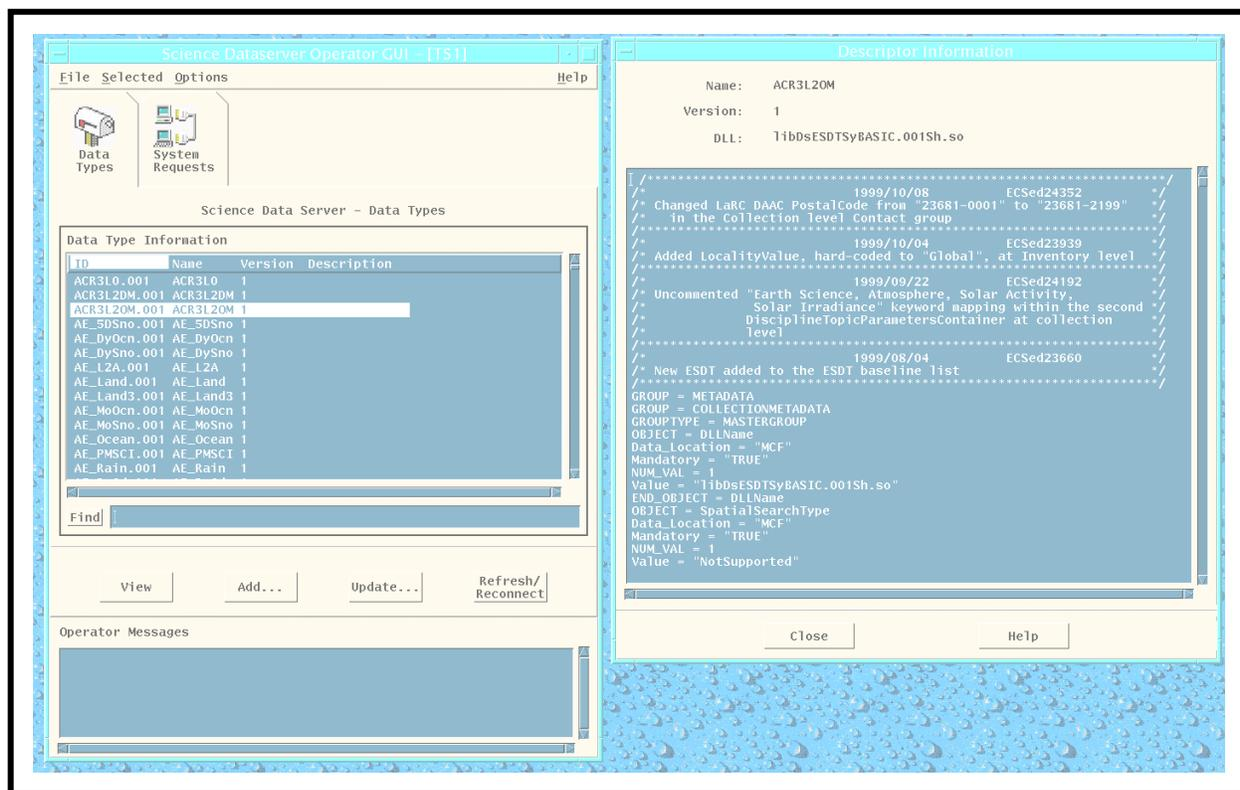

Figure 14. Viewing An ESDT Descriptor File
- The descriptor file (Figure 14) is displayed.